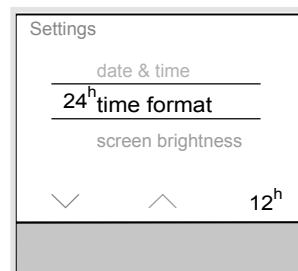

Figure 11: Time format setting
The time format changes from the 24^h to 12^h display. In the function line (8) the 24^h appears in order to switch back again to 24^h (figure 11).